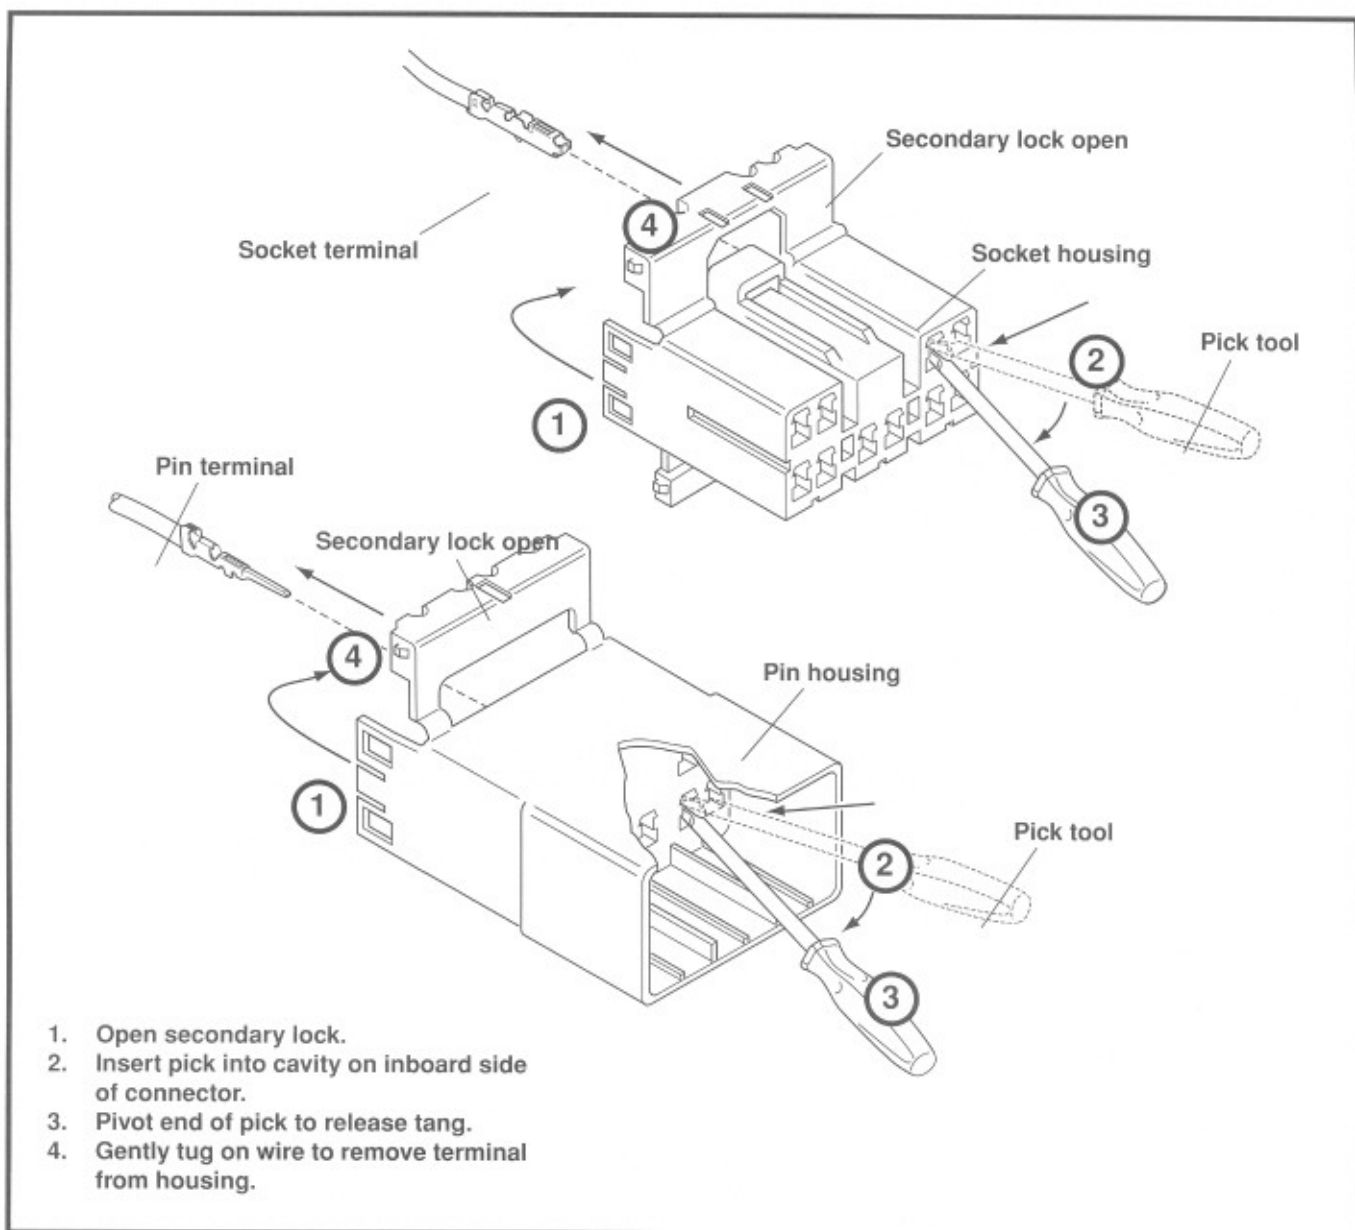

Figure 7-103. Amp Multilock Connector
5. See Figure 7-103. With the flat side against the terminal, insert the pick tool (Snap-On TT600-3) into the cavity until it stops. Pivot the end of the pick away from the terminal and gently tug on wire to pull terminal from chamber. Do not tug on the wire until the tang is released or the terminal will be difficult to remove. A "click" is heard if the tang is engaged but then inadvertently released. Repeat the step without releasing the tang.